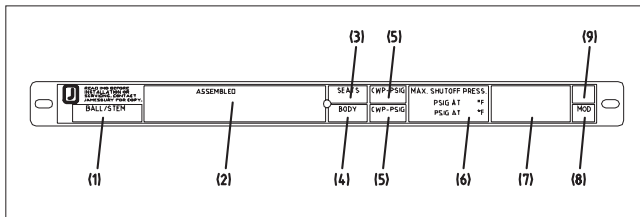

Figure 1. Identification plate
The valve has an identification plate (22) attached to the flange (see **Figure 1**).